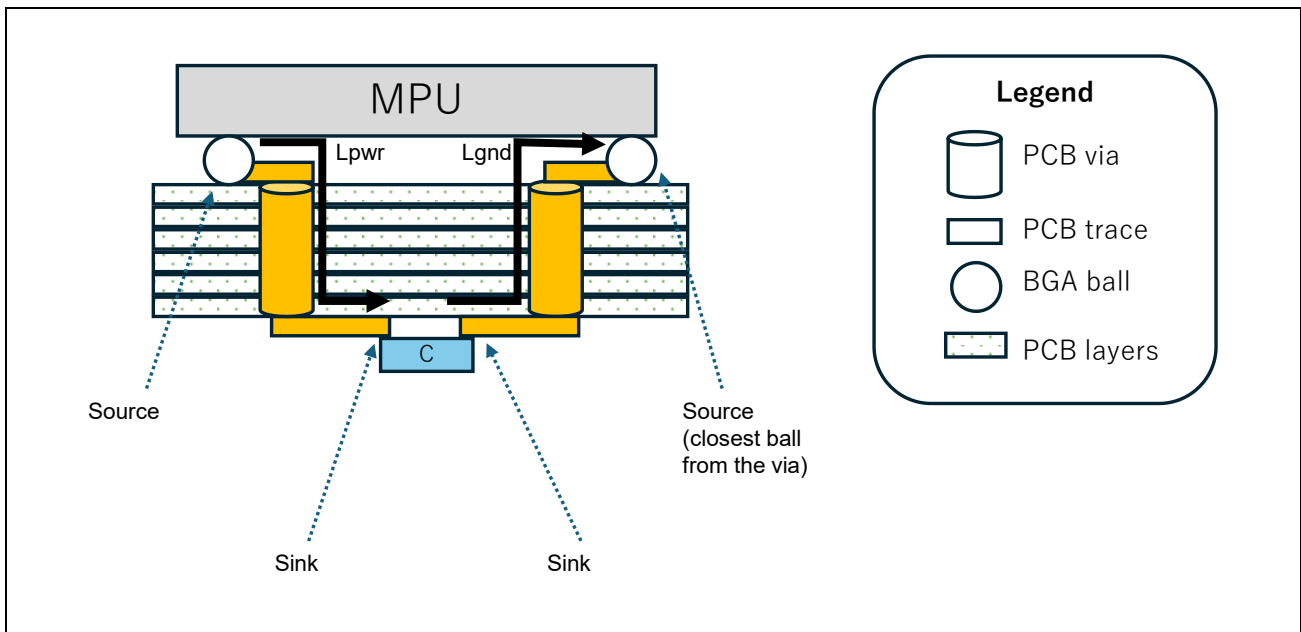

Figure A.2 Concept of Direct Modeling
**Figure A.2** illustrates direct modeling.